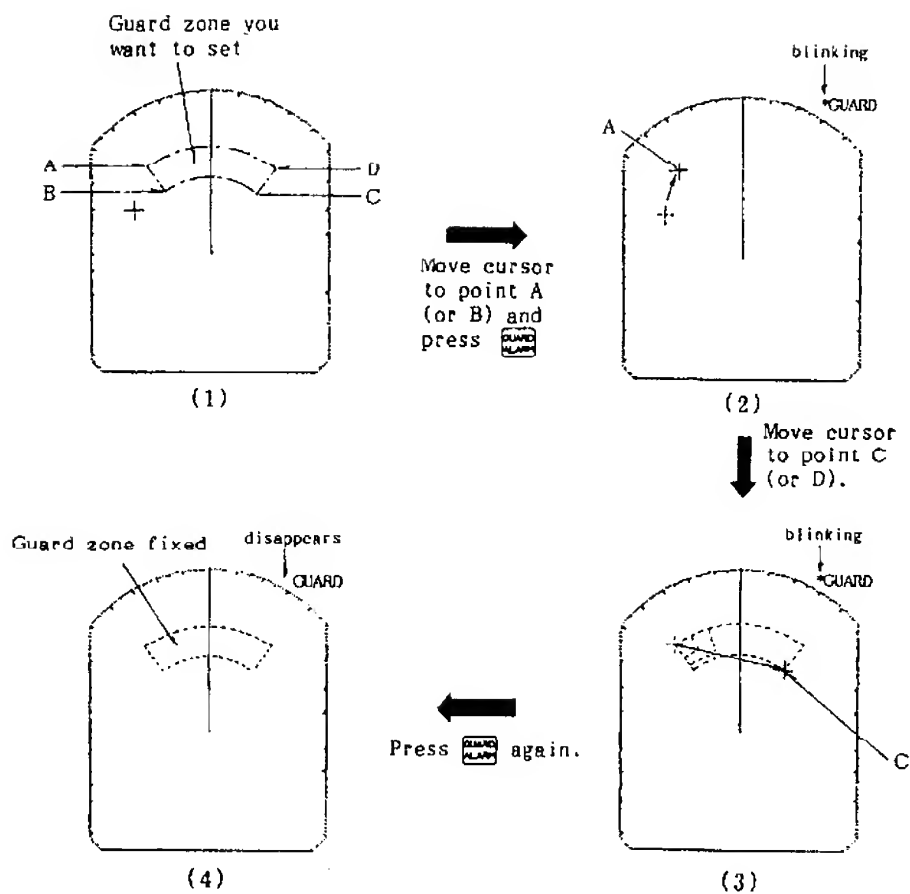

Fig.31 Setting Guard Zone
1. Mentally create the guard zone you want to display on-screen. See Fig.31 (1).
2. Designate the upper (lower) left edge of the guard zone with the cursor. Press the  touchpad, and the indicator "*GUARD" (asterisk blinking) appears at the upper right-hand side of the screen. The asterisk indicates the guard zone is partially set; but the alarm function has been actuated. See Fig.31 (2).
3. Moving the trackball clockwise, designate the lower (upper) right edge of the guard zone. The guard zone (fan-shaped) now appears on the display screen. See Fig.31 (3).
4. Press the  touchpad again. The asterisk disappears, indicating the guard zone is completely actuated. See Fig.31 (4).